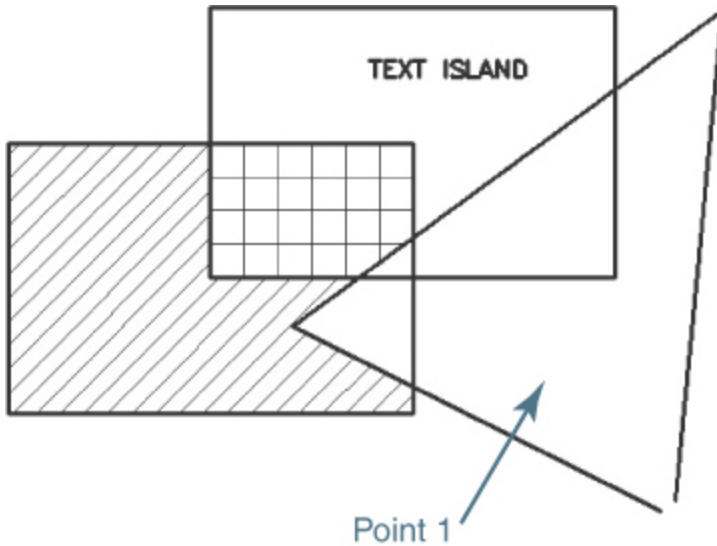

Figure 10-15
- 3 Pick point 1 as shown in Figure 10-15. AutoCAD will display the **Boundary Definition Error** dialog box and place red circles on your drawing where gaps are located. Select **Close** to exit the dialog box.